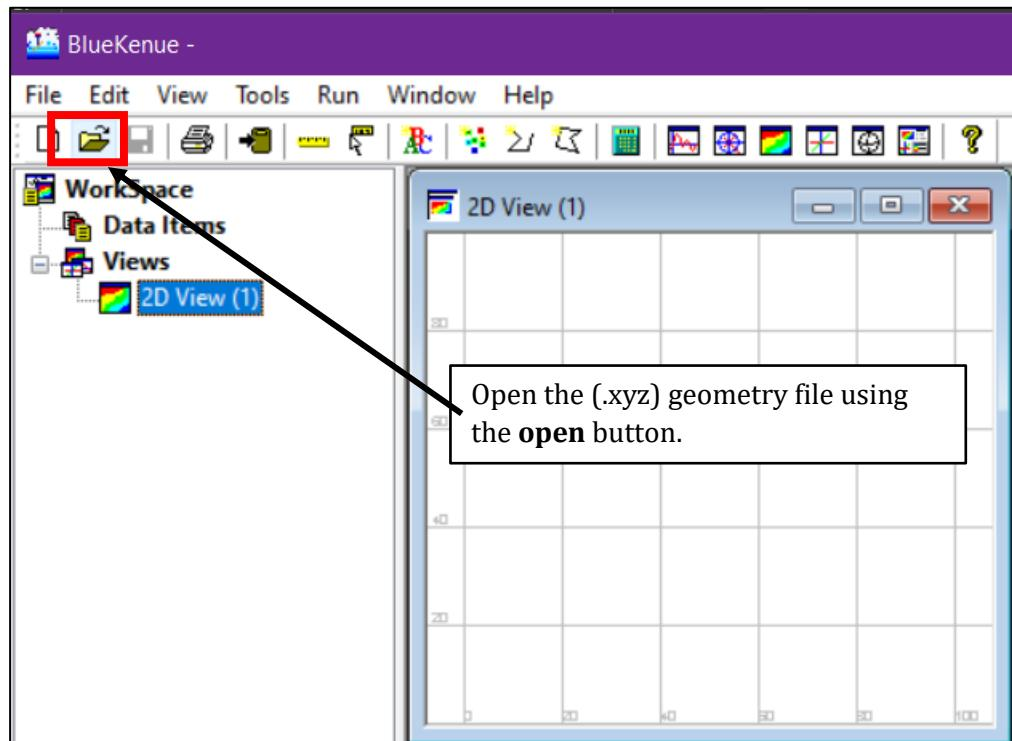

Figure 22. Importing the Bathymetry Data Using the Open Button
2. Start the Blue Kenu application and open the (.xyz) geometry file from the extracted **TELEMAC Training Folder** >> **Bathymetry\_Data** >> **2017\_DEM.xyz**. To see your XYZ dataset, change the file type drop-down menu from Selafin to All Files as shown in Figure 22.